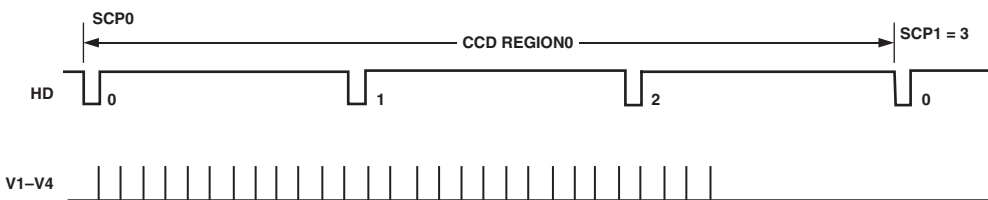

Figure 33. Sweep Mode Timing Example with SVREP\_MODE = 1 and SVREP0 = 28
Normally the sequences are contained within one HD line length, but with the sweep mode enabled, the HD boundaries will be ignored until the region is finished. The special vertical sweep mode operation is only output in CCD Region0 and CCD Region3. (See Figures 33 and 34.) The SVREP\_MODE register located at control Address 0x0A is used to enable and configure the special sweep mode operation as described in Table XVIII. The maximum number of repeats in each region is 2048 while operating in this mode using the SVREP0 and SVREP3 Mode\_Reg(4) registers.